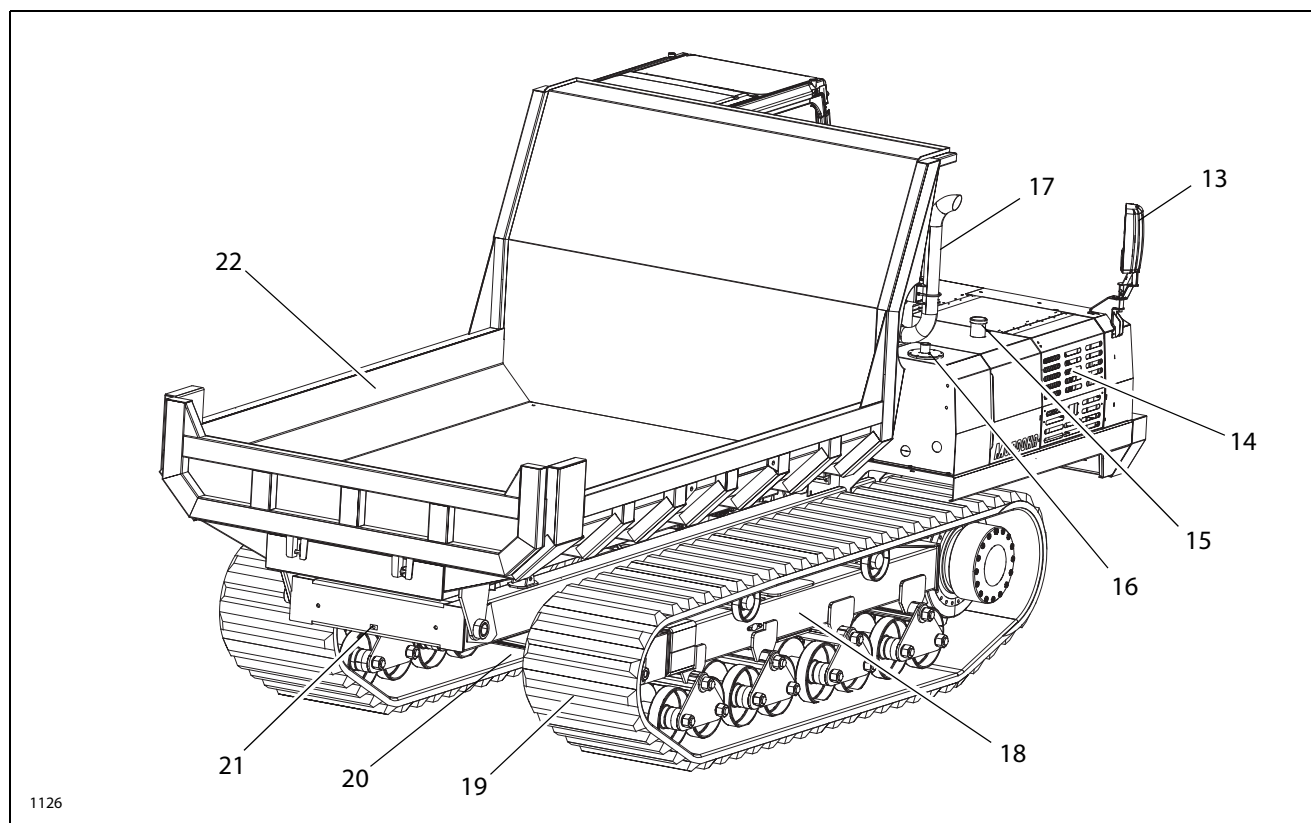

Figure 2-3. Walk-Around Inspection - 2 of 2
5. “Walk-Around” Inspection – Refer to Figure 2-3. and Figure 2-3.